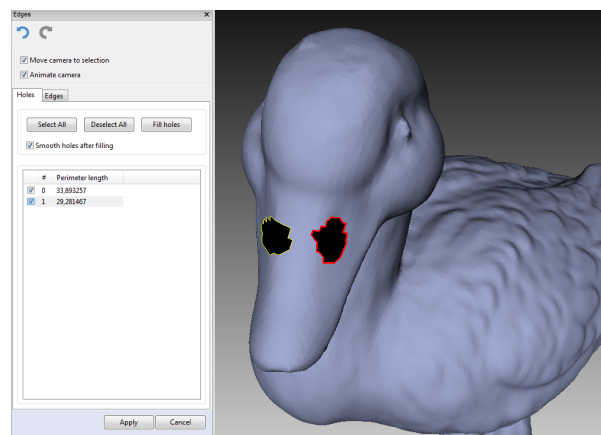

Figure 8.41.: Two holes marked for correction.
- Mark the checkbox next to each one you wish to correct. These edges will be highlighted in red in the *3D View* window (see Figure 8.41.).